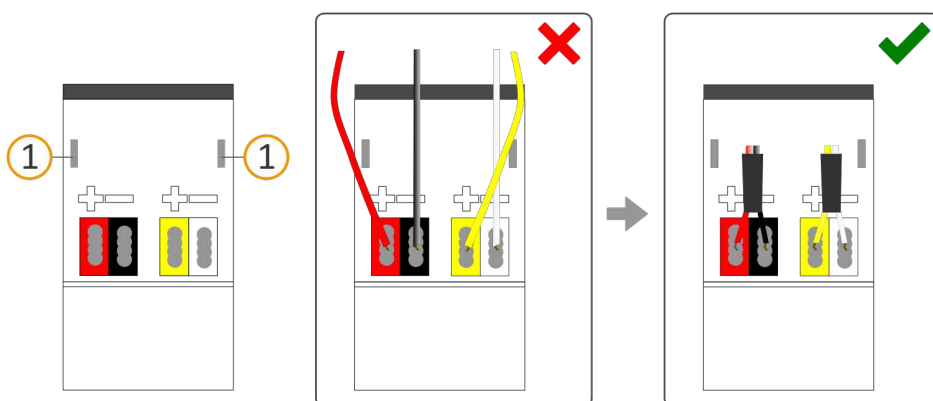

Figure 19: Cable routing
- a. Route all cables to the back. The openings for fastening the cover cap (see figure 19, item 1) must be clear. All cables must be between the openings.